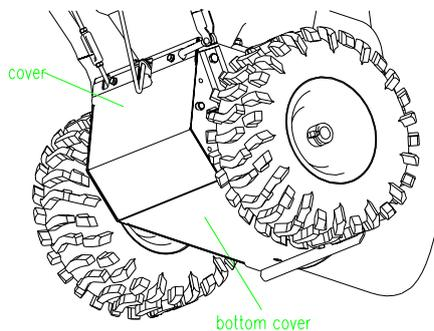

FIG 20
- 6.5.3 Remove the upper and the bottom cover. (FIG20)
6.8.3 Remove the upper and the bottom cover. (FIG 20)